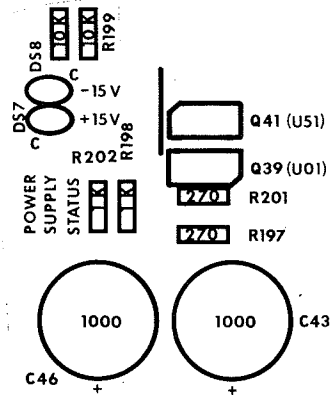

FIGURE 3-15 POWER SUPPLY STATUS LAMPS
3.5.4 Power Supply Status (Figure 3-15)